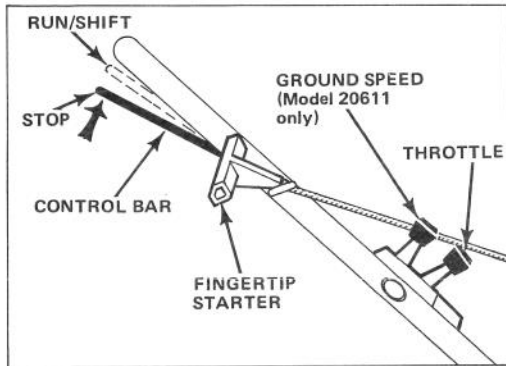

Figure 8
1. **CONTROLS** — Ground speed control, throttle, control bar and fingertip starter are on upper handle (Fig. 8).
3. **STARTING** — Move ground speed control to "N" and throttle to FAST. Lift control bar to handle and hold. Pull fingertip starter out until positive engagement results (Fig. 8), then pull vigorously to start the engine. Regulate throttle as desired when engine starts (Fig. 8). If engine does not start after 2 or 3 pulls, wait 10 seconds for carburetor prime well to refill with gasoline.
4. **TRACTION OPERATION** — Allow control bar to move into the RUN/SHIFT position. Move ground speed control to desired setting and squeeze control bar against handle to drive. Ground speed varies, depending on space between control bar and handle (Fig. 8).